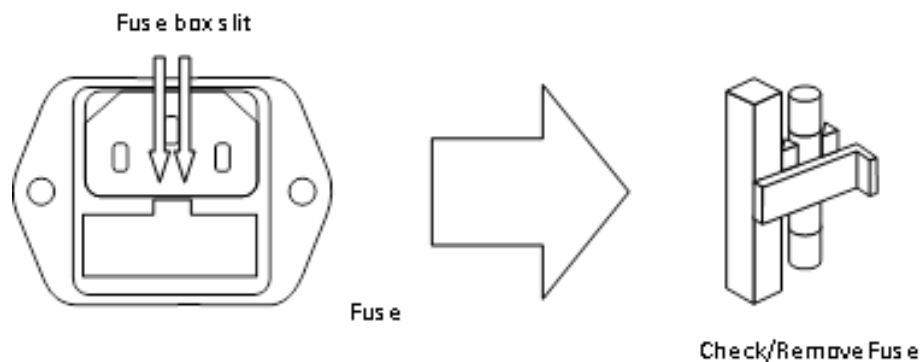

Figure 1.3: Fuse Holder
2. Locate the fuse box in the rear panel, beneath the AC power socket. Figure 1.3